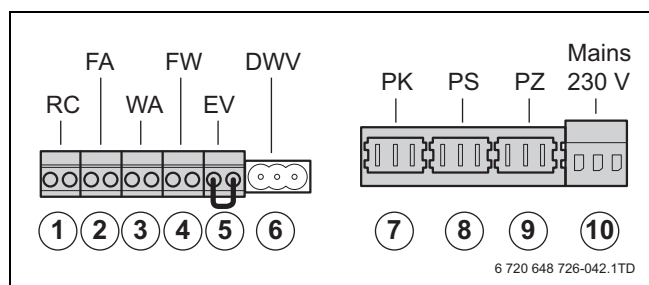

Fig. 42 Terminal strip connections
Items 1 – 6 are low-voltage connections and items 7 – 10 are 230 V-connections (→ fig. 42).
- Please be aware that there may be a voltage on items 7 – 10 (230 V), when power is supplied to the boiler.